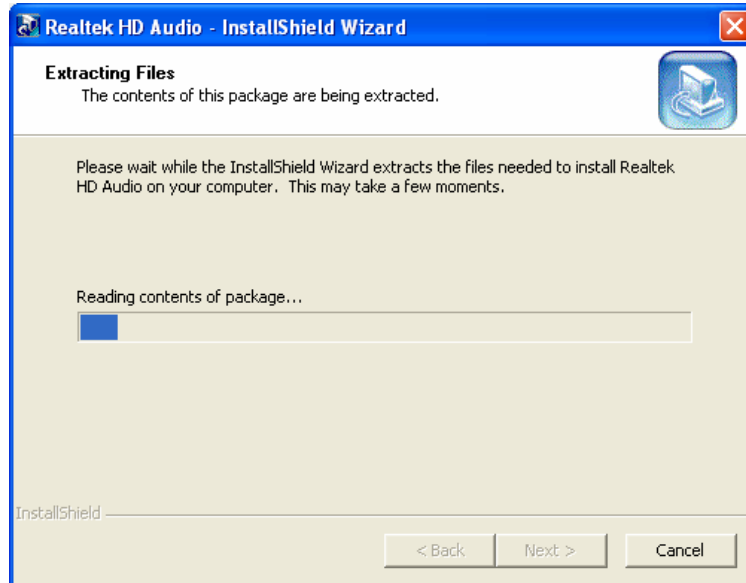

Figure 7-18: Preparing Setup Screen
Step 2: The InstallShield Wizard is prepared to guide the user through the rest of the process (**Figure 7-18**).